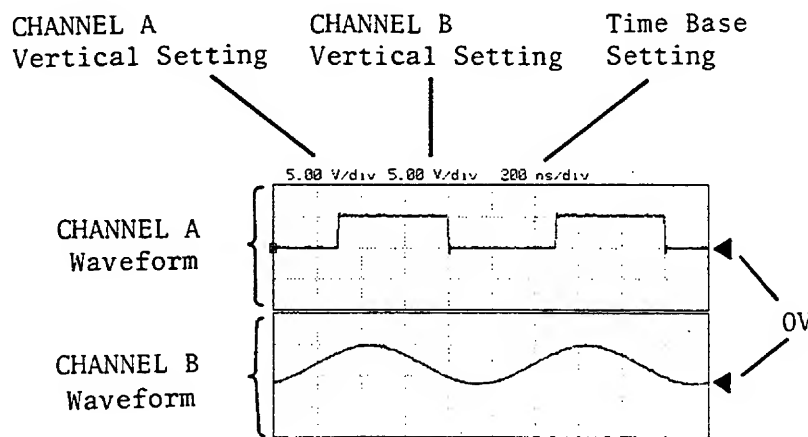

Figure 4-1. Oscilloscope Setup
The troubleshooting aids provide information to help you troubleshoot problems in the HP 4284A. Usually the troubleshooting aids consists of a list of jumpers, a list of test points, and troubleshooting information. The jumper list shows the strapping configuration for each jumper. The test point list gives a description of the signal at each test point. The troubleshooting information includes waveforms for troubleshooting the board, and the measurement setup for viewing the waveform is listed next to the waveform figure, refer to Figure 4-1.
- (1) Set the oscilloscope inputs to DC coupled (1 M Ω).
- (2) The settings (using a 1:1 probe) for channel A and B, and the time base setting are displayed with the waveform, refer to Figure 4-1. When a 10:1 divider probe is used, the channel A and B settings must be multiplied by 10.